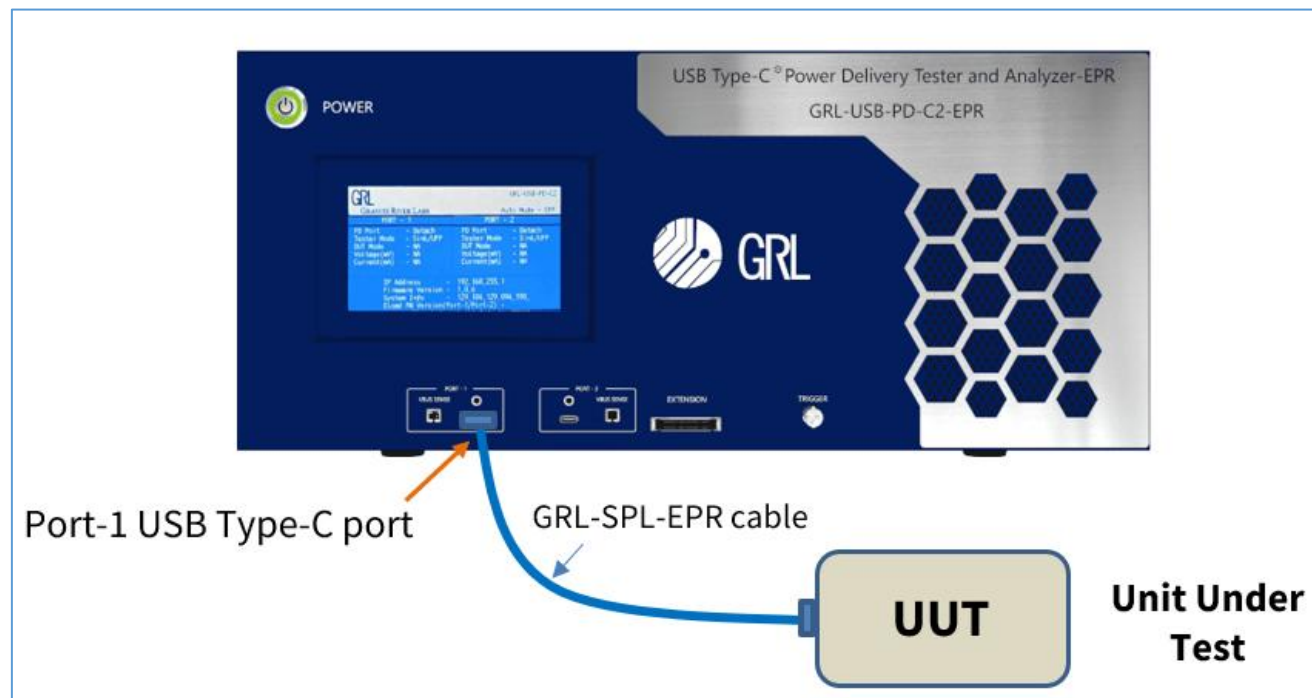
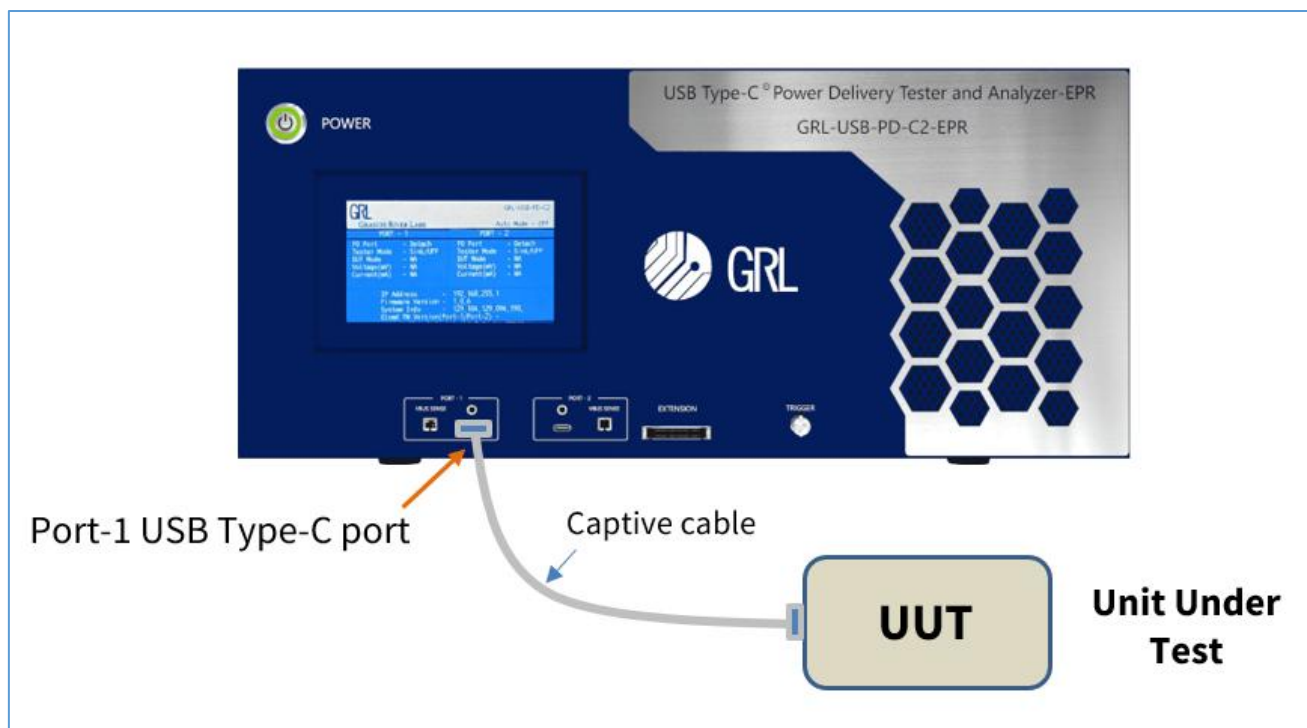

FIGURE 4.1: GENERAL TEST CONNECTION SETUP – FOR SOURCE/SINK/DRP RECEPTACLE UUT NOT CAPABLE OF USB COMMUNICATION
FIGURE 4.2: GENERAL TEST CONNECTION SETUP – FOR SOURCE/SINK/DRP UUT WITH CAPTIVE CABLE NOT CAPABLE OF USB COMMUNICATION
Connect the UUT directly to Port 1 of the GRL-USB-PD-C2-EPR test controller using the GRL-SPL-EPR cable, as shown in Figure 4.1 below.
Connect the UUT directly to Port 1 of the GRL-USB-PD-C2-EPR test controller using a captive cable, as shown in Figure 4.2 below.
1. Connect the equipment for General Test setup as shown in Figure 4.1 or Figure 4.2 whichever applies.